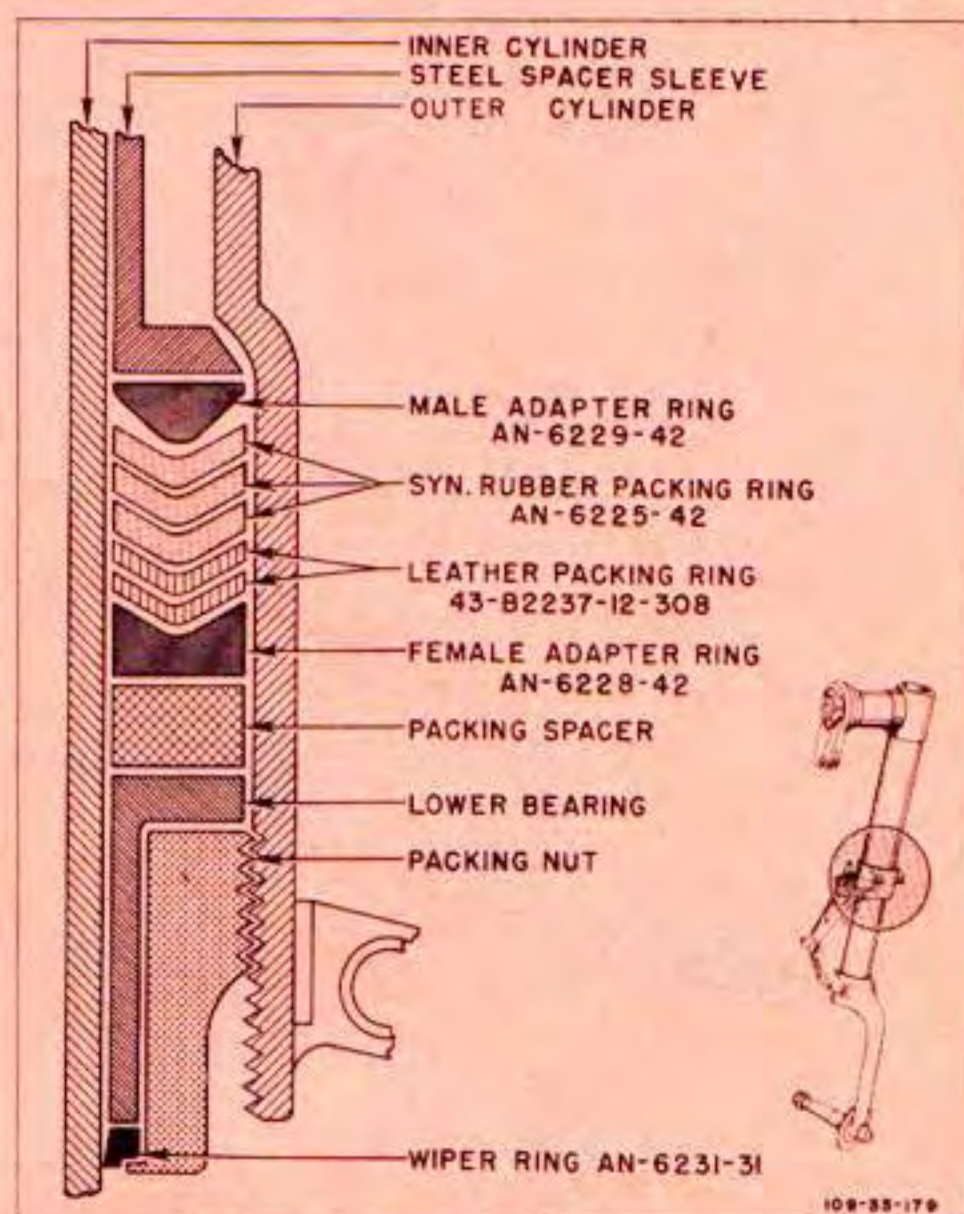

Figure 128—Main Gear Shock Strut Cylinder Packing
- c. Before disassembly, consult the diagram of the strut packing. (See figure 128.)